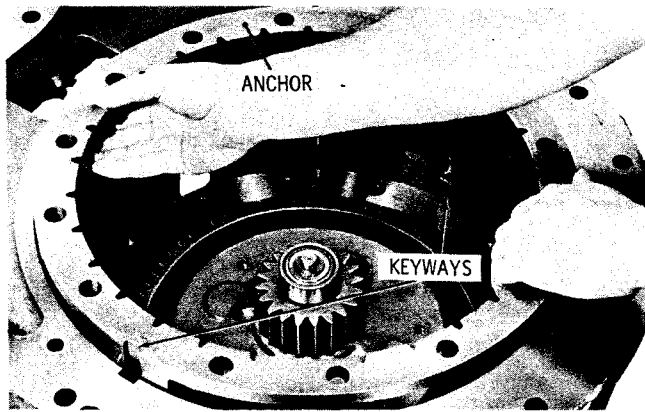

Fig. 7-13. Installing intermediate-range clutch anchor
(13) Install the intermediate-range clutch anchor, aligning the keyways with the anchor keys (fig. 7-13).